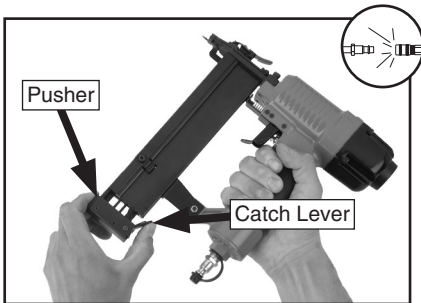

Figure 3. Unlocking catch lever.
2. Grip the stapler firmly, unlock the catch lever (**Figure 3**) and pull the magazine pusher back.